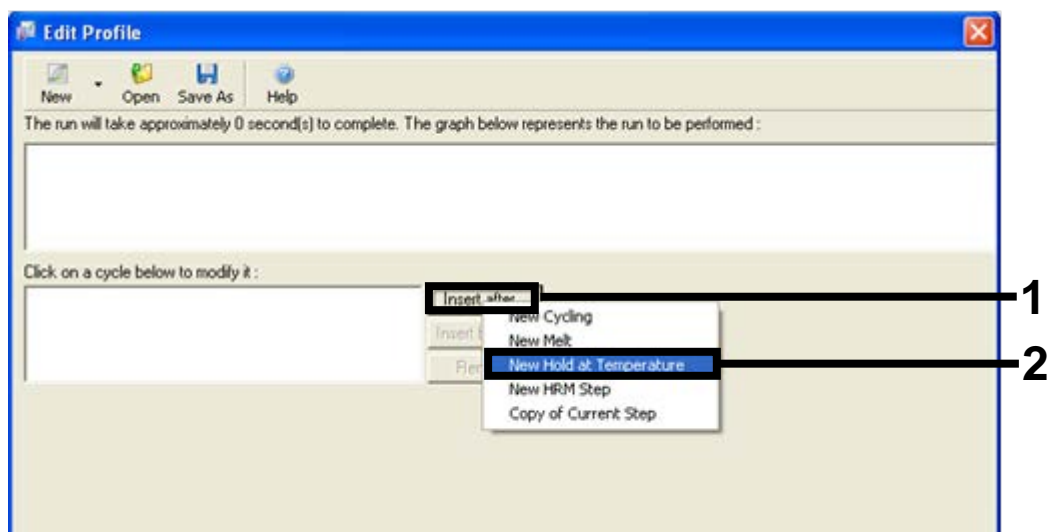

Figure 24. Inserting an initial incubation step. (1 = "Insert after" button, 2 = "New Hold at Temperature").
6. Click the "Insert after" button and select New Hold at Temperature (Figure 24).